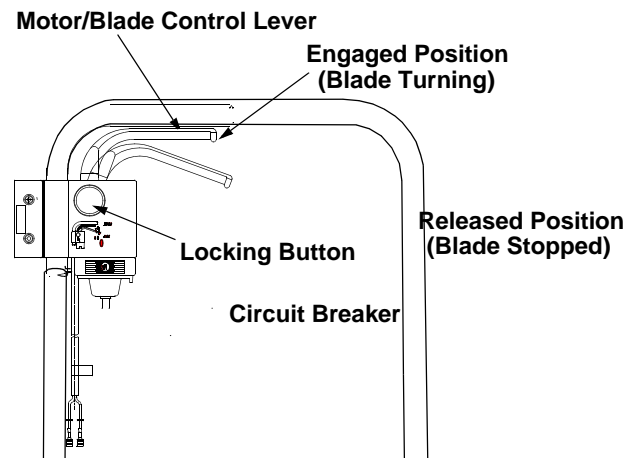

Figure 11
To engage the motor and blade, first be certain to follow the previous steps for connecting a suitable extension cord, then referring to Figure 11:
- The mower is equipped with a circuit breaker, located on the motor/blade control assembly as shown in Figure 11. This circuit breaker may trip when too much strain is placed on the mower. The circuit breaker may have been tripped if the mower will not run.
- If this occurs, unplug the mower, wait approximately five minutes, then depress the reset button. Refer to Figure 11.